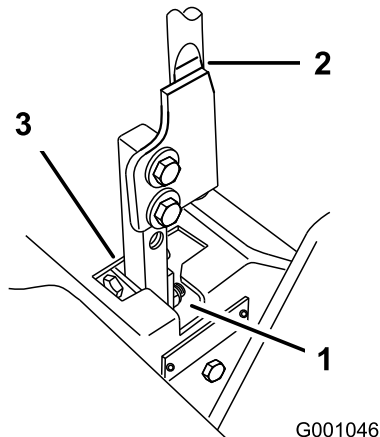

Figure 81
5. Move the lever to the neutral position but not locked (Figure 81).
6. Pull the lever back until the clevis pin (on arm below pivot shaft) contacts the end of the slot (just beginning to put pressure on the spring) as shown in Figure 81.
7. Check where the control lever is relative to the notch in the console (Figure 81).